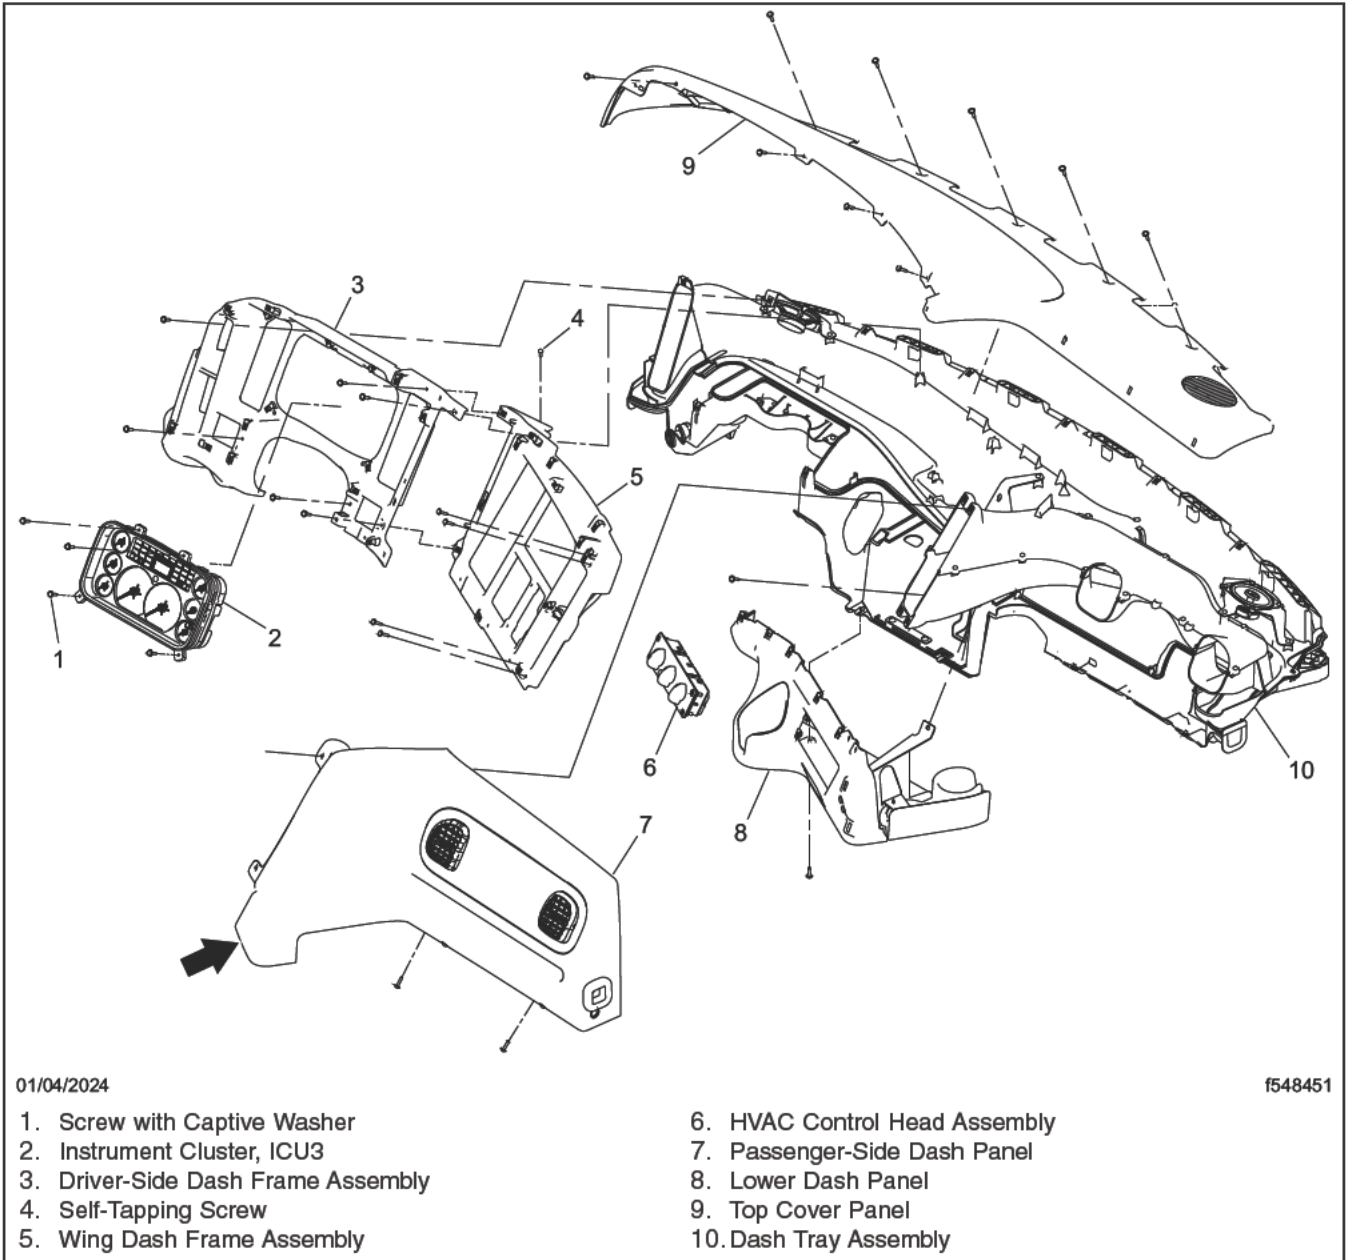

Fig. 17, Dash Components
2. Remove the passenger-side dash panel. See Fig. 17. For instructions, see **Group 60** of the applicable workshop manual.